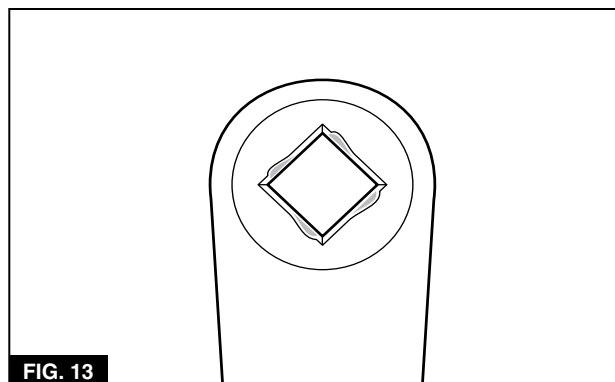

FIG. 13
2. Inspect the square hole in the crank arm (**Figure 13**). The flats of the hole should be straight and even. Replace the crank arm if its square hole shows signs of wear or damage.